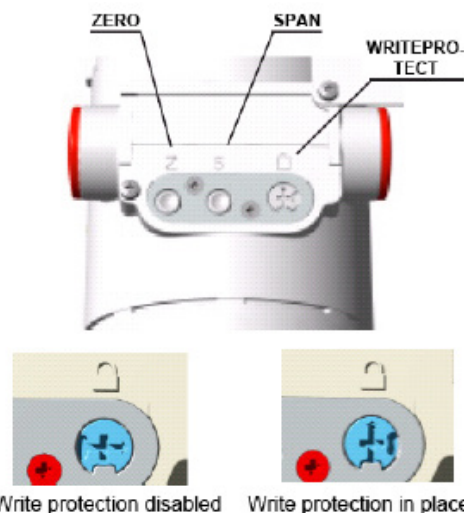

Figure 14: Pushbutton functionalities
- Use a suitable screwdriver to press the switch down fully. (see figure 14)